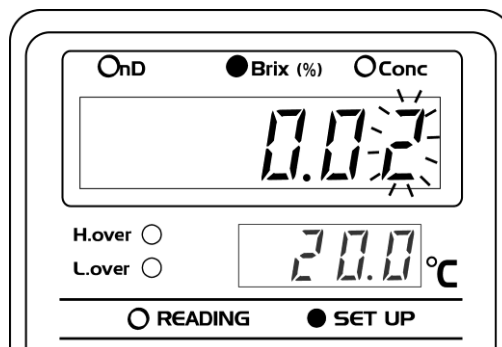
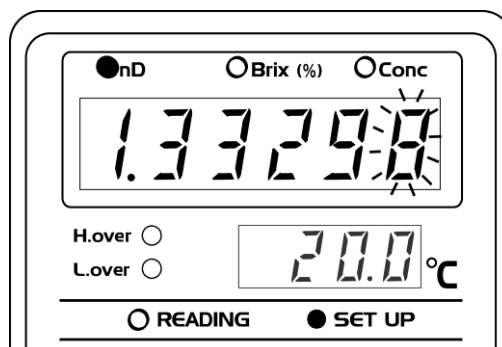

Fig. 11-4 Example using the Brix display
Fig. 11-5
⑨ Use **←** **→** key to move digit position and then use **↑** **↓** key to set a standard value (Fig. 11-4 and Fig. 11-5).